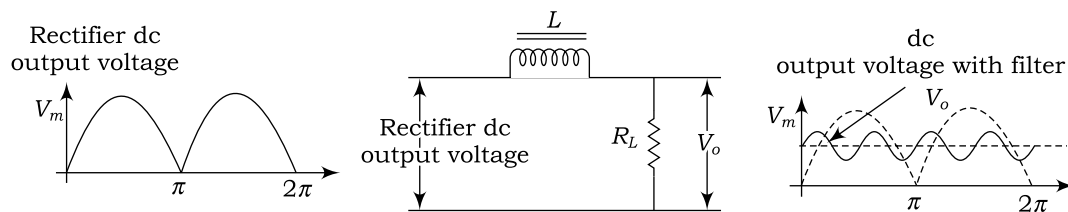

Fig. 1.2 Inductor filter circuit and its output voltage waveform
Figure 1.2 shows an inductor filter which consists of an inductor (L). Actually, inductor is placed in between the rectifier and load resistance R_L . The rectifier output voltage contains dc as well as ac components. If the ac signal is passed through an inductor, it provides high impedance and consequently blocks the ac signal. When a dc signal is passed through an inductor, it provides very low impedance and allows the passage of dc signal. Accordingly, the ac component of rectifier output voltage is removed and only the dc component will be available at the output terminals. In an ideal case, the output voltage across the load is constant dc voltage. However, in reality, the output voltage has small amount of ripple as shown in Fig. 1.2.